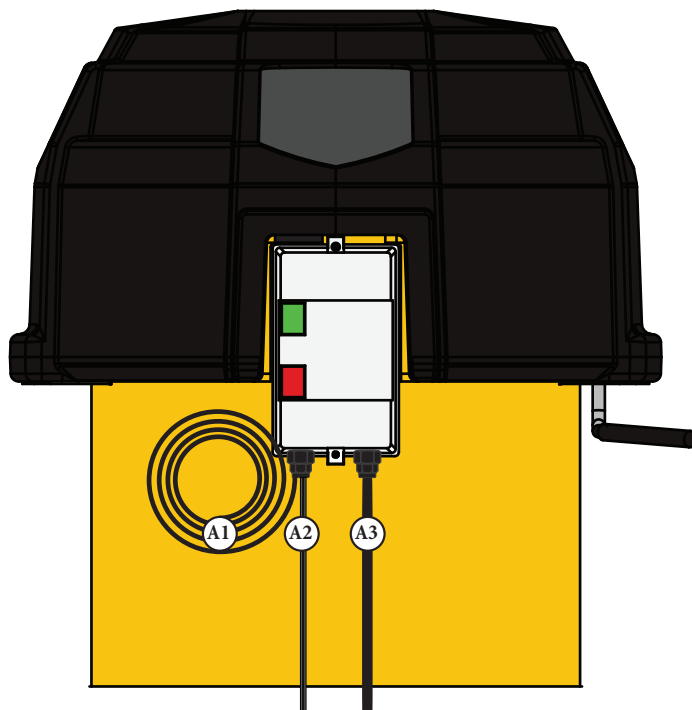

FIG. 30
Attach the long end of the Tube Assembly (G18C) onto the Nylon Elbow (G20A) installed on the lower section of the Drum (K). Push the Hose onto the fitting so that all barbs are covered [FIG. 30].
Uncoil and hang the Antenna Extension Wire (A1) either on the ceiling or high up on the wall [FIG. 30].
The Remote (G25) sends long range wireless signals via radio frequency that work at long distances. The Antenna Extension Wire (A1) further extends the distance for the remote [FIG. 30 & 31a].
The Dust Sentry (A2, I) uses infrared technology to automatically detect when the dust bin is full [FIG. 30 & 31b].
The Power Cord (A3) powers the system on and off [FIG. 30 & 31c].